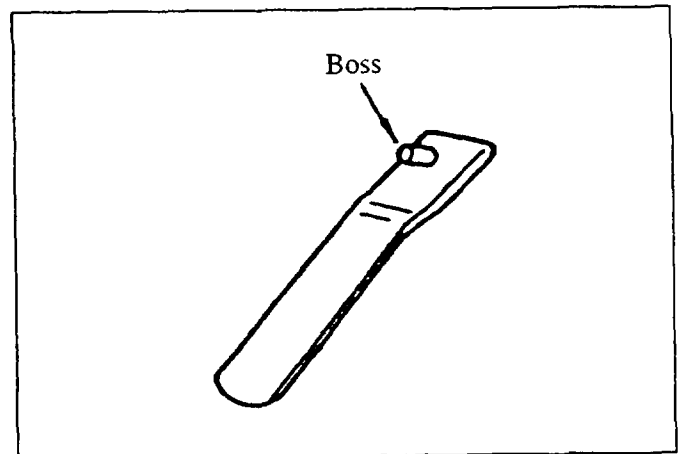

Figure 13: *Protector*
1. Cut the boss off of the protector. **Figure 13.**